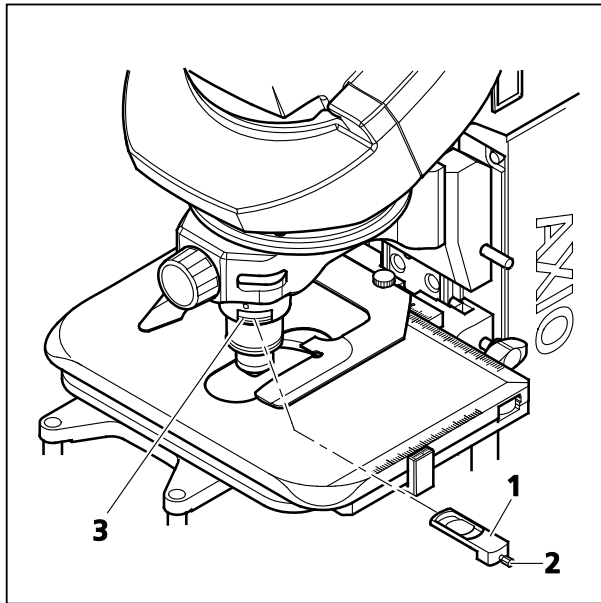
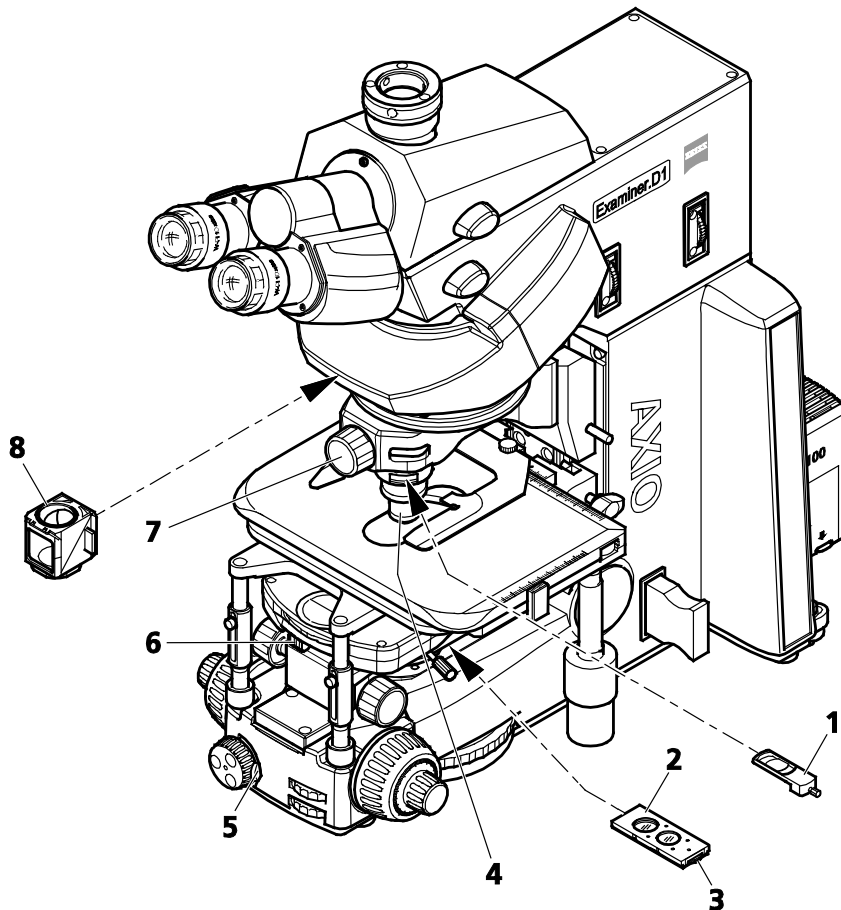

Figure 4-3 Inserting a DIC slider into an objective adapter
Figure 4-5 Axio Examiner.D1 with DIC equipment
- Slide a DIC slider (Figure 4-3/1, see lettering) suitable for the objective into the opening (Figure 4-3/3) provided for this above the objective in the objective adapter.
- The DIC slider (Figure 4-5/1) is inserted properly into the objective adapter.
- The 10x objective (or the overview objective used) (Figure 4-5/4) is in working position.
- Swing the SÉNARMONT polarizer (Figure 4-5/2) into the optical path.
- Turn the thumb wheel (Figure 4-5/3) at the SÉNARMONT polarizer to the 45° lock-in position.
- Swing in the analyzer module at the reflector turret (Figure 4-5/8).
- Re-adjust the knurled screw at the DIC slider (Figure 4-3/2), adjusting the diagonal black strip to the center of the visual field.
(5) Setting transmitted light DIC
- Put an objective suitable for DIC into work position using the shift knob (Figure 4-5/7).
- Switch on the SÉNARMONT polarizer (Figure 4-5/2)(polarizer and $\lambda/4$ plate) in the lock-in position.
- Set the luminous-field diaphragm (Figure 4-5/8) and the aperture stop (Figure 4-5/6) according to KÖHLER's rules.
- To adjust the optimum contrast for SÉNARMONT DIC, turn the polarizer using the thumb wheel (Figure 4-5/3) of the SÉNARMONT polarizer. The $\lambda/4$ plate located above needs to be switched on at all times to ensure that contrasting works according to SÉNARMONT. If the DIC slider is in the proper center position, darkness is achieved in the SÉNARMONT polarizer lock-in position, i.e., the path difference is 0 nm in this position.